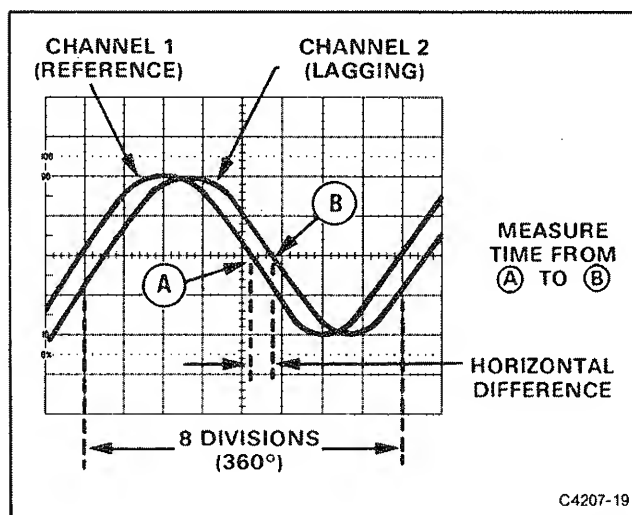
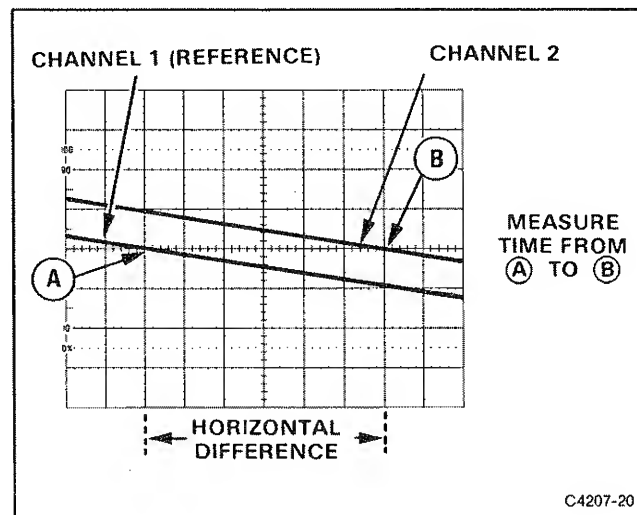

Figure 4-8. Phase difference.
Figure 4-9. High-resolution phase difference.
9. Position the displays and adjust the SEC/DIV Variable control so that one reference-signal cycle occupies exactly 8 horizontal graticule divisions at the 50% rise-time points (see Figure 4-8). Each division of the graticule now represents  $45^\circ$  of the cycle ( $360^\circ \div 8$  divisions), and the horizontal graticule calibration can be stated as  $45^\circ$  per division.
Example: The horizontal difference is 0.6 division with a graticule calibration of  $45^\circ$  per division as shown in Figure 4-8.
EXAMPLE: If the sweep speed were increased 10 times with the magnifier (X10 Magnifier button out), the magnified horizontal graticule calibration would be  $45^\circ/\text{division}$  divided by 10 (or  $4.5^\circ/\text{division}$ ). Figure 4-9 shows the same signals illustrated in Figure 4-8, but magnifying the displays results in a horizontal difference of 6 divisions between the two signals.